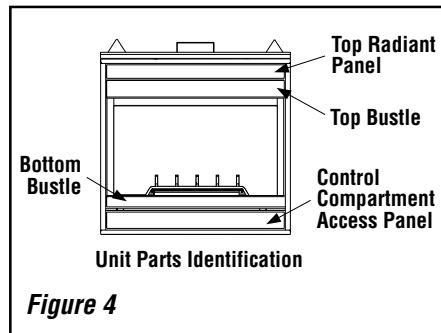

Figure 4
- Remove the top radiant panel; *see Figure 4.*